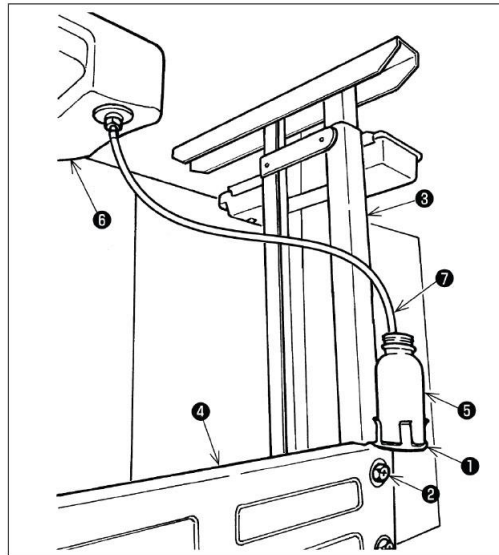

Fig.3
Remove one lateral bracing strut setscrew (2). Insert folded mounting section (A) of waste oil receiver bracket (1) into the section between strut (3) and lateral bracing strut (4). Tighten lateral bracing strut (4) and waste oil receiver bracket (1) with lateral bracing strut setscrew (2) together. Place waste oil receiver (5) on waste oil receiver bracket (1). Insert tube (7) coming from oil pan (6) into waste oil receiver (5). Adjust the length of tube (7) according to the distance between oil pan (6) and waste oil receiver (5). See fig.3